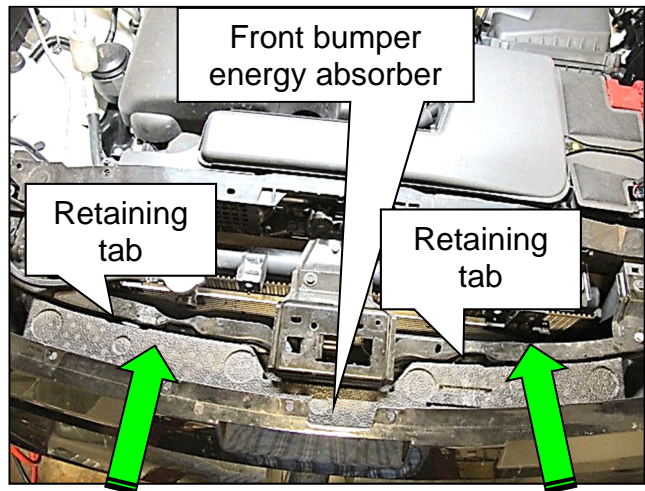

Figure 26
b. Locate the two (2) retaining tabs on the back of the front bumper energy absorber and gently install them into the radiator core support holes (Figure 26).